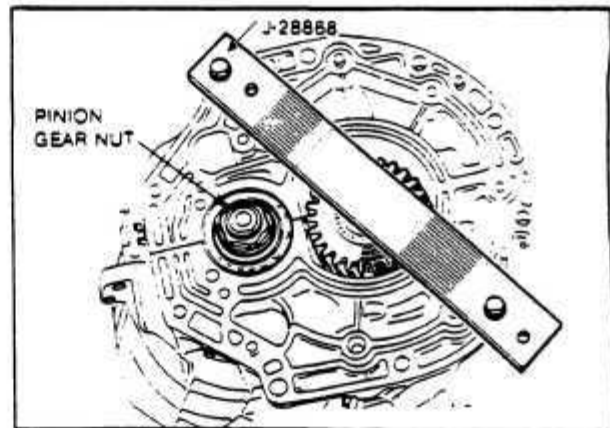

Fig. 68 PINION GEAR NUT REMOVAL
4. Fasten special Tool J28868 to the final drive case to lock the pinion gear in place. Loosen the pinion gear nut. *Fig. 68*